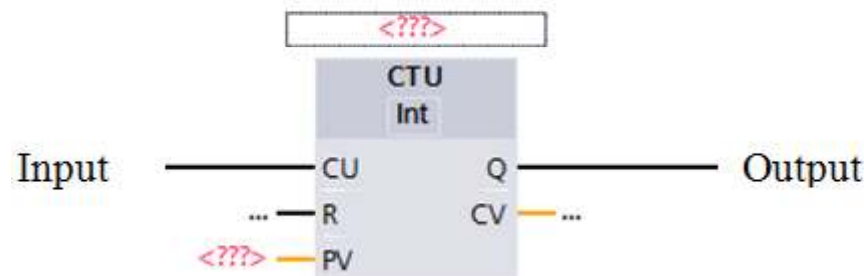

Fig 8.7 Single channel up-counter function
- In general, the counter function has different terminals, e.g. terminal for pulse input, counter set/reset terminal, Preset value terminal and current value terminal. Fig 8.7 shows general layout for up-counter function.